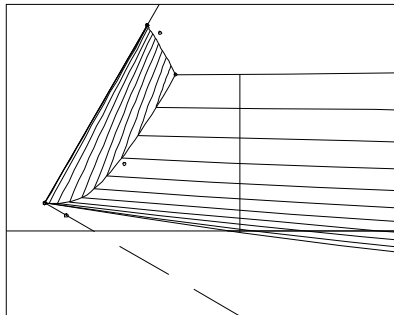

Fig. 11.
- 2 This time, **change Lat to 120** (Fig. 11). [This should match our distribution model DEMOTR3C.MS2] There is our reversed transom, still accurately attached to the hull and still cylindrical ... but ...